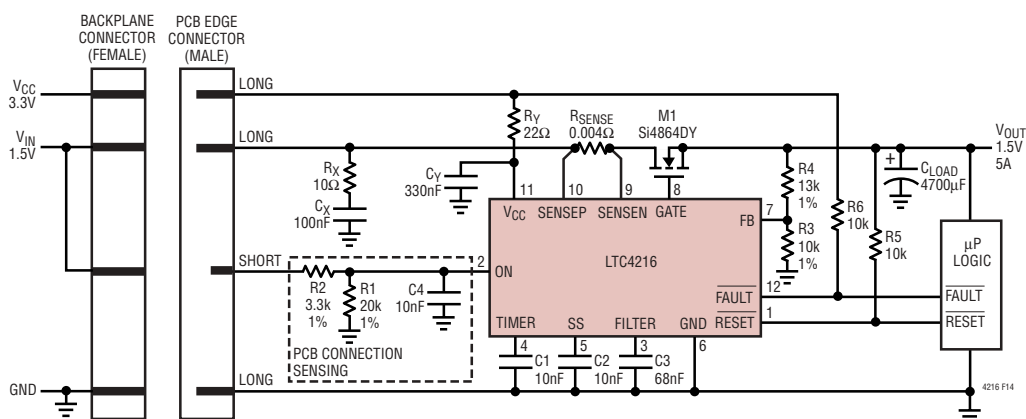

Figure 14. Single Channel 1.5V Hot Swap Controller
The LTC4216 can be used on either the backplane side of the connector or a printed circuit board, and examples for both are shown in Figure 14 and 15. Printed circuit board edge connectors with staggered pins are recommended as the insertion and removal of circuit boards will sequence the pin connections. Supplies (V_{CC} and $SENSE_P$) and ground connections on the printed circuit board should be wired to the long pins or blades of the edge connector. Control signal (ON) and status signals ($\overline{RESET}$ and $\overline{FAULT}$) passing through the edge connector should be wired to short pins or blades.
An example is shown in Figure 14, in which the LTC4216 is mounted on the PCB and the R1/R2 resistive divider is connected to the ON pin. On the edge connector, R2 is wired to a short pin. Before the connectors are mated, the ON pin is held low by R1, keeping the LTC4216 in an off state. When the connectors are mated, the resistive divider is connected to the load supply (V_{IN}) and the ON pin voltage rises above 0.8V, turning the LTC4216 on.